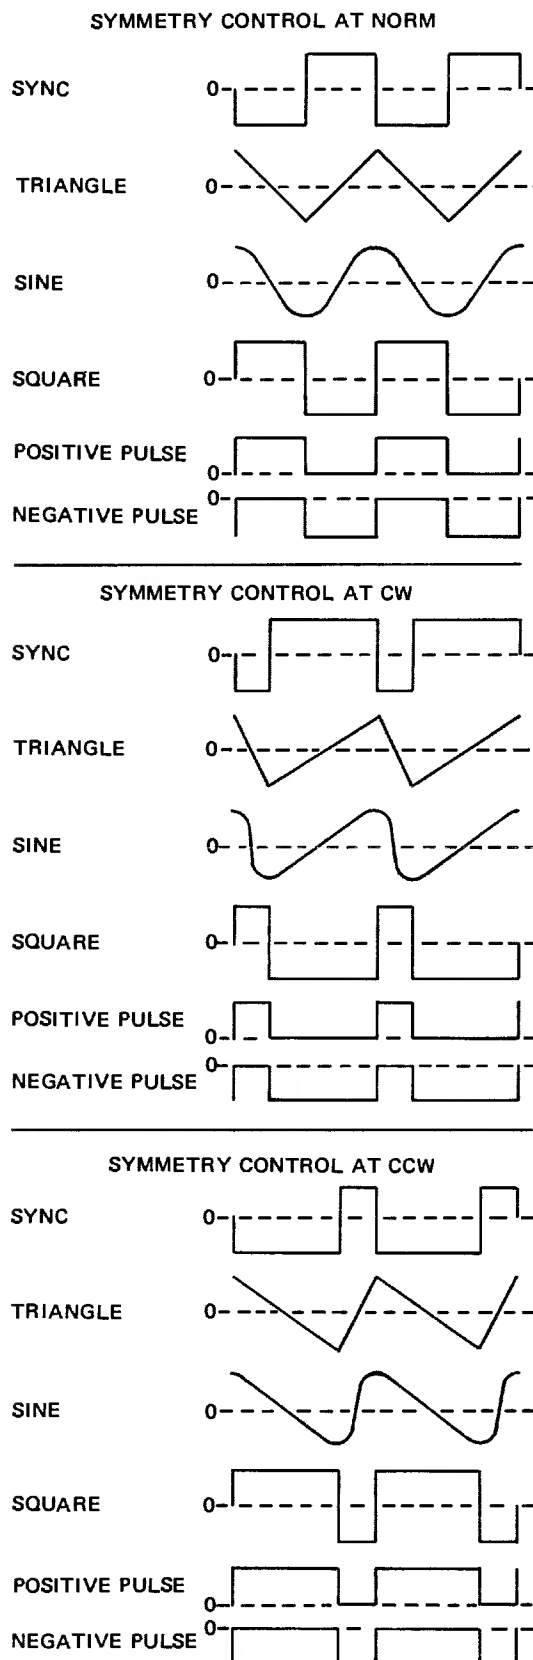

Figure 2-3 - Waveform Phasing and Symmetry Control
2. **Frequency Dial** — This is the main frequency control. The setting on this dial multiplied by the frequency range setting (above) equals the output frequency of the generator. The frequency vernier (3) and the symmetry control (11) also affect the generator frequency. Note their effect in the listing below.
6. **Amplitude Vernier** — A vernier control of the output amplitude. Maximum clockwise position gives the full output amplitude of 30 V peak-to-peak into an open circuit or 15 V p-p into a 50 Ω load, except positive and negative pulse which are 7.5 V zero-peak amplitude into 50 Ω load. Counter-clockwise rotation will continuously reduce the output amplitude. The control gives a minimum of 20 dB variation (10:1). This control operates in conjunction with the output attenuator (9). For maximum amplitude output this vernier must be full clockwise and the output attenuator in the "0 dB" position.
7. **Sync Out** — This output provides a square or rectangular output at the same frequency of the main generator. The output amplitude is approximately 2 V p-p into 50 Ω . The phase relationship between the sync output and the waveforms from the 50 Ω output is as shown in Figure 2-3
9. **Output Attenuator** — Attenuates the output from 0 dB (15 V p-p 50 Ω max) to -60 dB (15 mV p-p into 50 Ω) in six, 10 dB steps. The vernier (6) adds an additional -20 dB, thus, a maximum of -80 dB (1.5 mV p-p into 50 Ω).
8. Set SYMMETRY switch/control for desired symmetry or dissymmetry. The symmetry control can be used to develop ramp waveforms with variable rise fall ratios and pulse trains with variable duty cycle. By using the sine wave with dissymmetry, controllable sine distortion can be developed. Figure 2-3 shows the effect of this control on output waveforms.